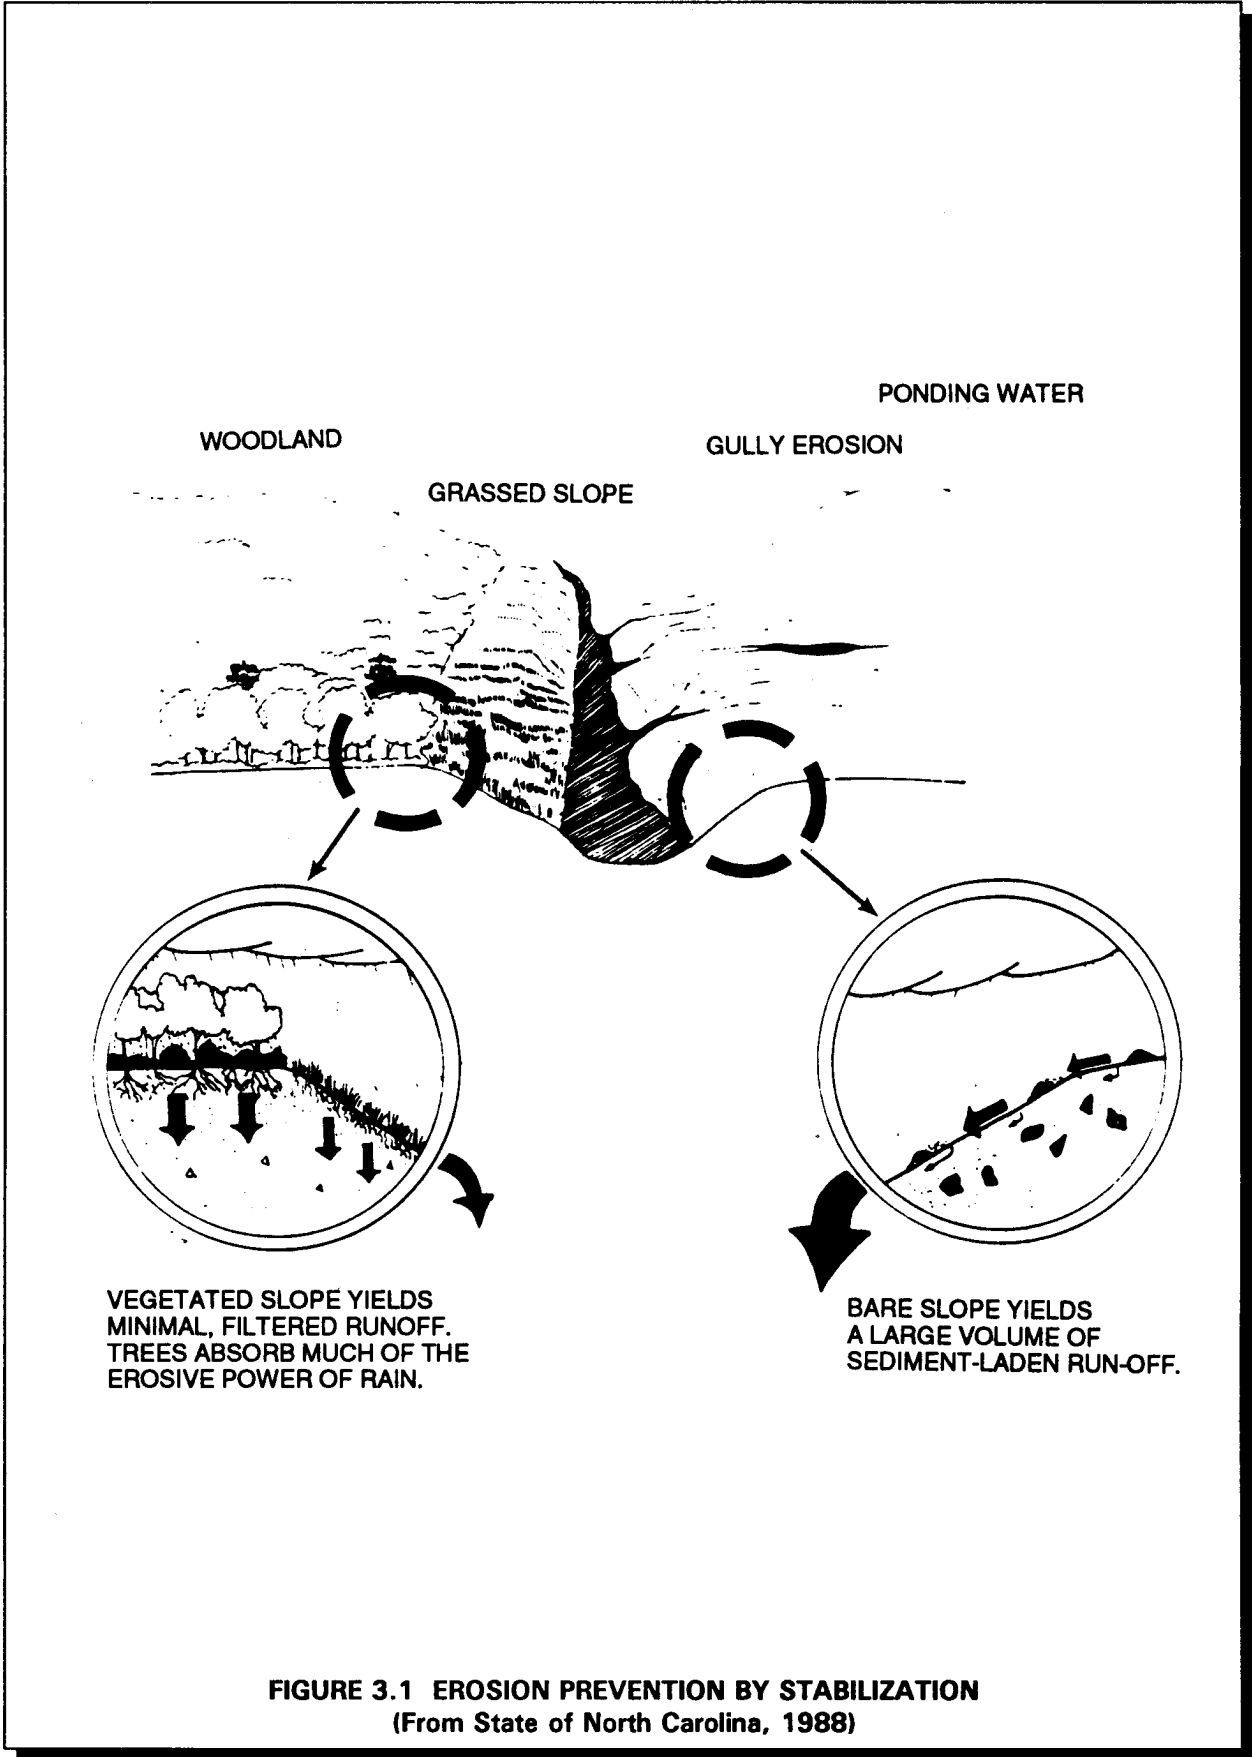

FIGURE 3.1 EROSION PREVENTION BY STABILIZATION
Disturbing soil can remove the vegetation. Vegetation is the most effective way to control erosion. Vegetative covers reduce erosion by: (1) shielding the soil surface from the impact of falling rain and thus reducing runoff; (2) dispersing and decreasing the velocity of surface flow; (3) physically restraining soil movement; (4) increasing infiltration rates by improving the soil's structure and porosity through the incorporation of roots and plant residues; and (5) conducting transpiration, which decreases soil moisture content and increases soil moisture storage capacity. Figure 3.1 illustrates some of the ways that vegetation helps control erosion.